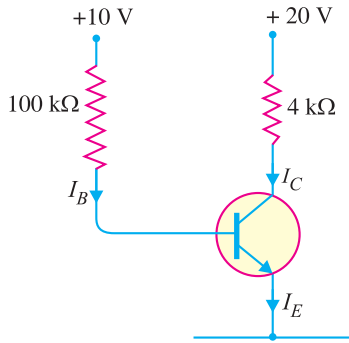

Fig. 9.48
2. Fig. 9.48 shows biasing with base resistor method. Determine the operating point. Assume the transistor to be of silicon and take $\beta = 100$. [$I_C = 0.93\text{ mA}$, $V_{CE} = 17.3\text{V}$]